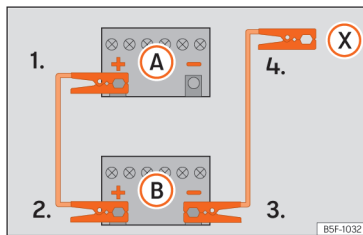

Fig. 193 Wiring diagram for vehicles without a start/stop system.
- Vehicles without a Start-Stop system:* connect one end of the *black* jump lead to the negative terminal (-) of the vehicle providing the current **B** »» Fig. 193.